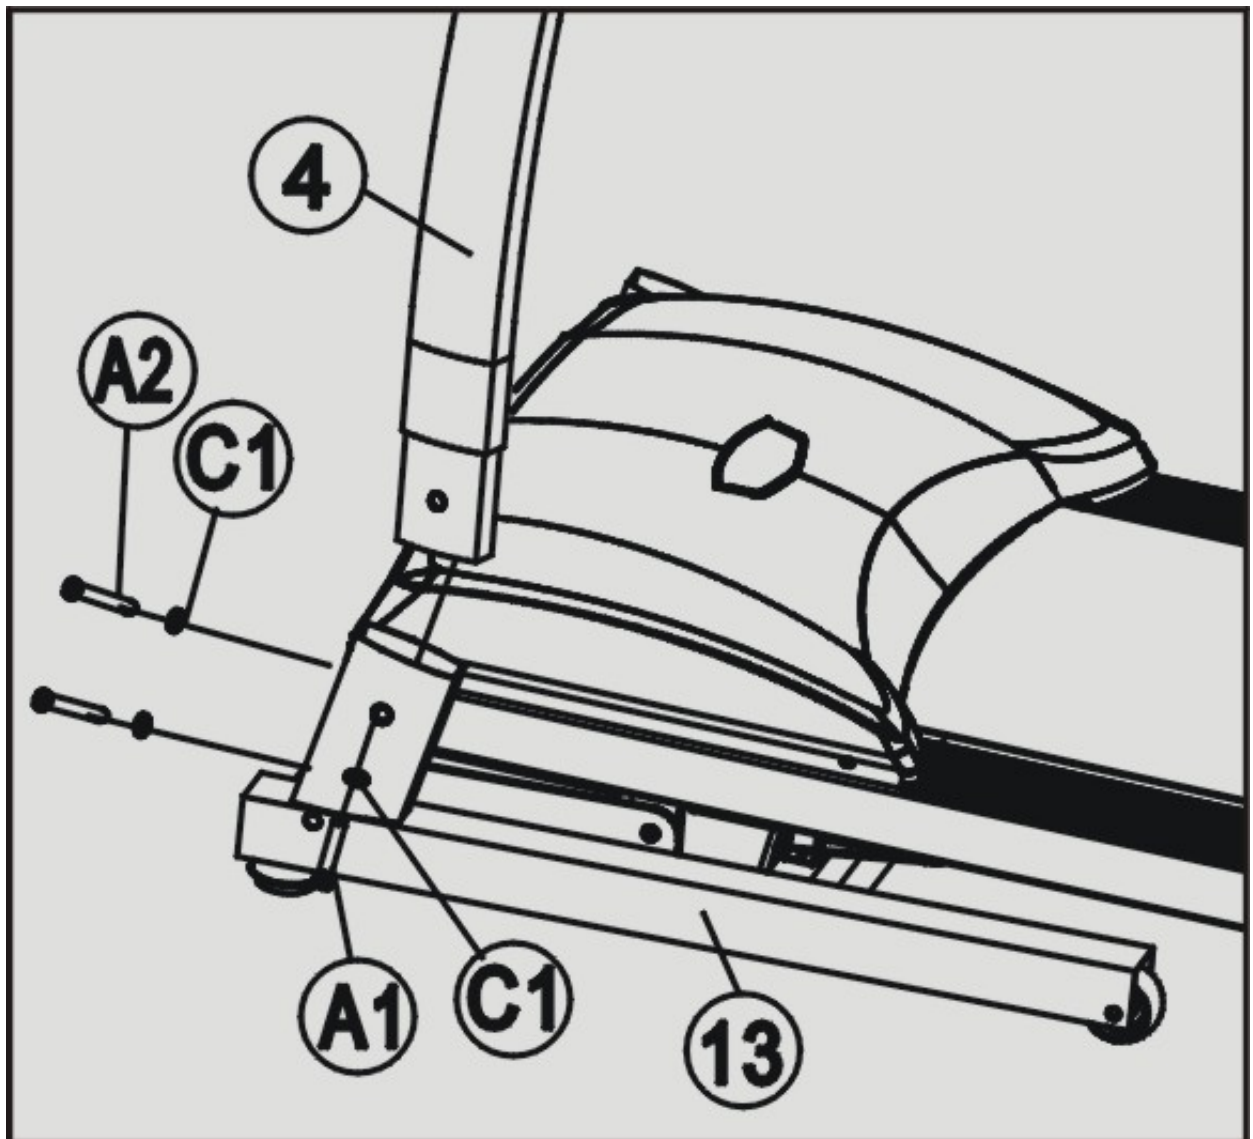

Figure 1
Insert Left upright tube(4) to the base frame (13) with two sets of Half-round bolt M8X20(A2), Flat washer $\phi 8$ (C1) in the front and one set of Half-round bolt M8X45 (A1), Flat washer $\phi 8$ (C1) at the side. Do not tighten the bolts.(see figure 1)